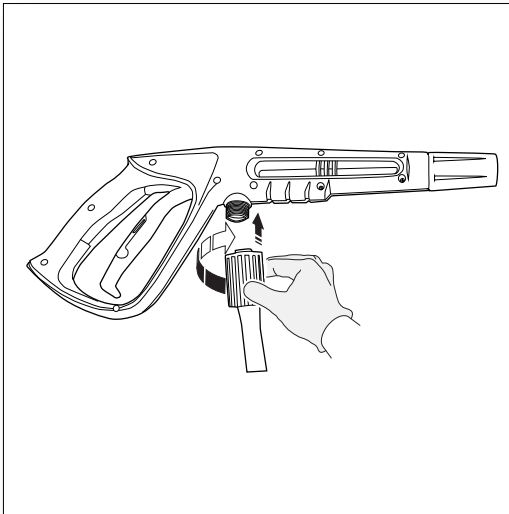

Fig.6
- Connect the other end of the high pressure hose to the spray gun by screwing the collar over the gun inlet and hand tighten turning it clockwise until tight. **(Fig. 6)**. The hose is now securely attached to the spray gun.